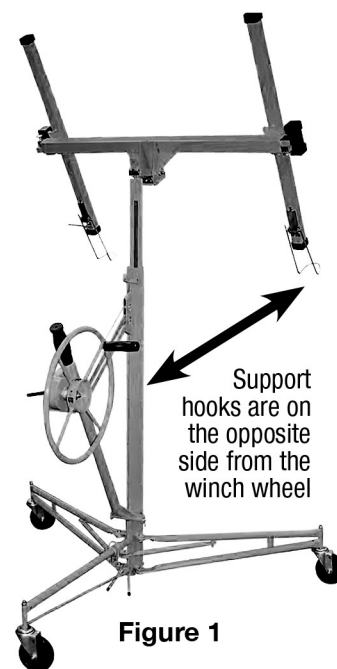

Figure 1
2. Swing open the panel support hooks on the two cross arms, be sure the cradle is turned so the support hooks are on the opposite side from the winch wheel (see Figure 1).